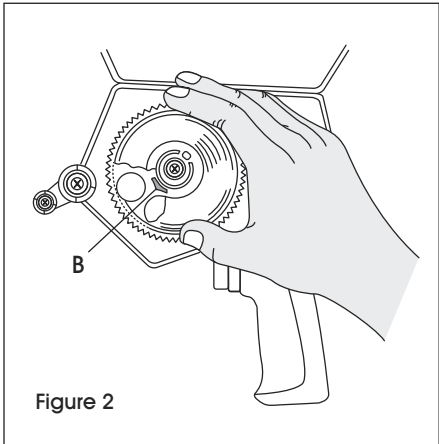

Figure 2
2. Place tape roll on hub with adhesive side out and down. Insert tab (B) in tape core slot. Turn roll slightly until tab snaps into place. (See Figure 2)